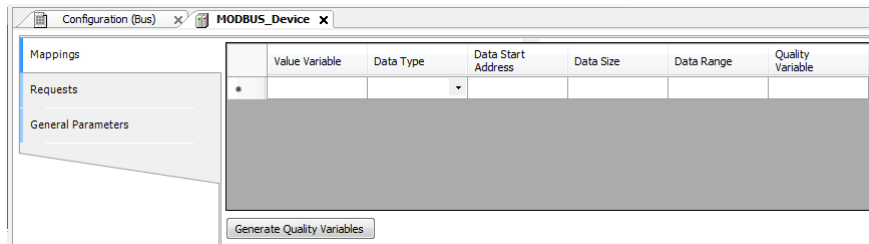

Figure 63: MODBUS Data Mappings Screen
- Add and configure the MODBUS mappings on Mappings tab as Figure 63, specifying the variable name, data type, and the data initial address, the data size and range are filled automatically.